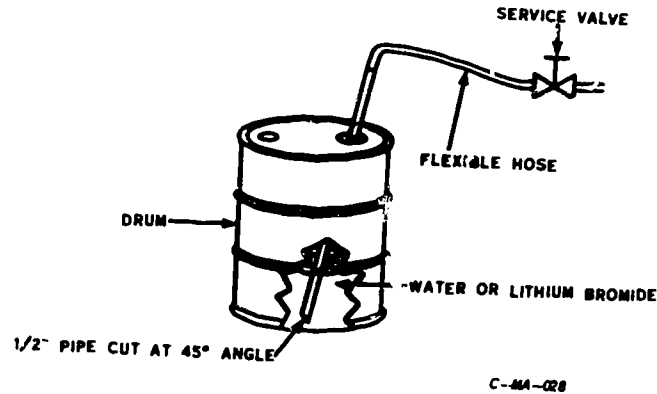

Figure 20. Charging Refrigerant or Solution
1. ___ Connect flexible hose to 1/2-inch pipe. Cut end of pipe at a 45° angle to prevent pipe from sealing itself on bottom of drum. (See figure 20) Fill both pipe and hose with water.